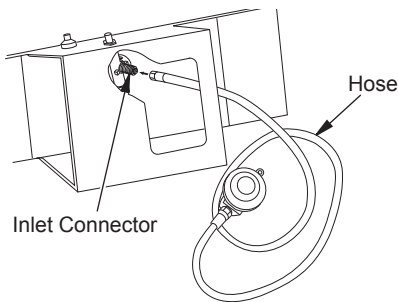

Figure 4 - Hose and Inlet Connector
3. Connect hose to valve inlet (see Figure 4). Tighten firmly using a wrench.